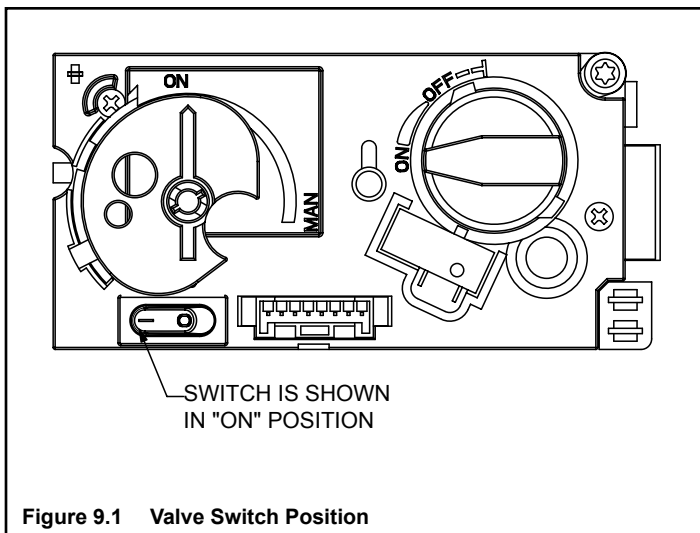

Figure 9.1 Valve Switch Position
- Switch must be in position shown in Figure 9.1 in order for remote control to operate properly.